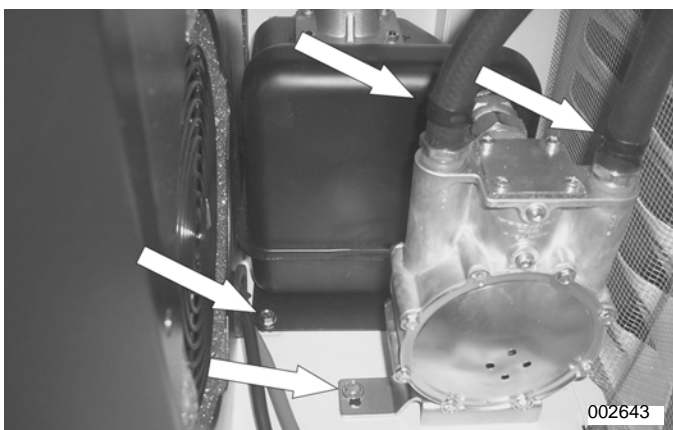

Figure 5-15.
11. **Remove Fuel Regulator:** See Figure 5-15. Remove the two fuel hoses at the top of the regulator. Use a 10 mm socket to remove one 10 mm bolt from the base of the plenum and one 10 mm bolt from the base of the fuel regulator. Flex the enclosure side out to allow for room to remove the regulator assembly.